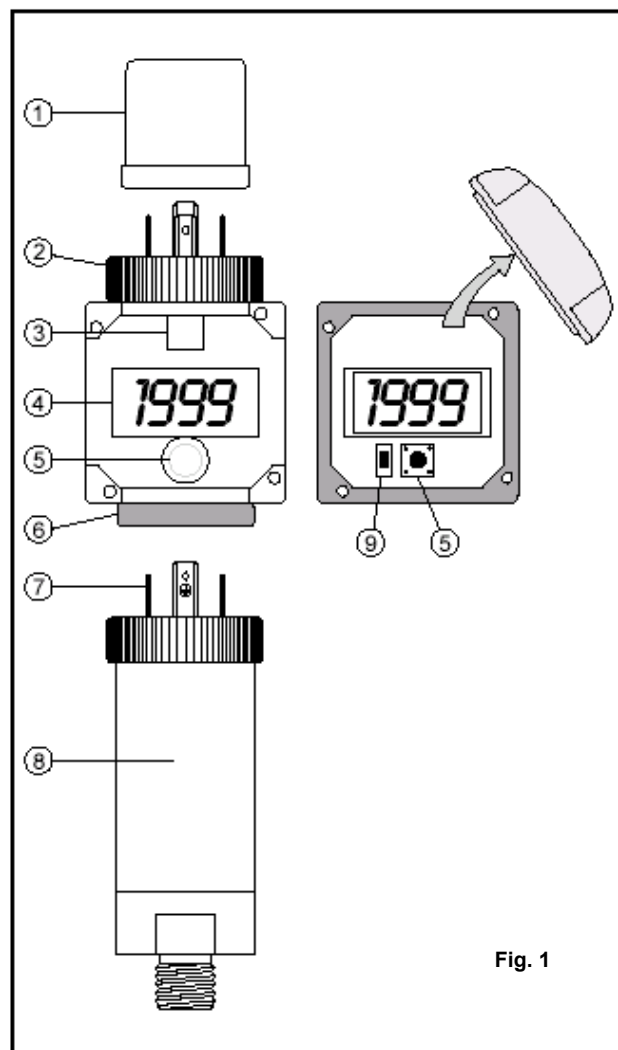

Fig. 1
Fig. 1 shows the typical configuration: the display is inserted between the transmitter (8) and the DIN43650 female connector (1).